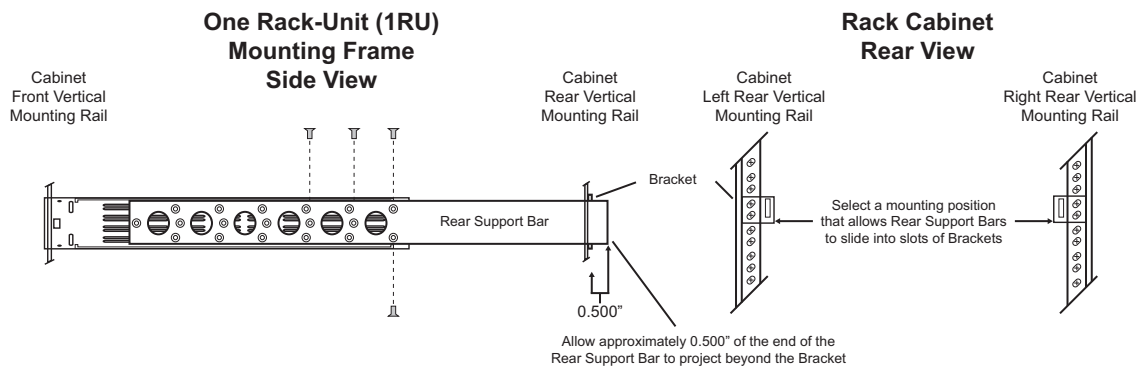

Figure 2.1 Installing the Support Brackets
In some cases, (mobile trucks, etc.) it may be desirable to also support the rear of the ACO-4400A. The rear support bars can be attached to the ACO-4400A in six possible positions. (Figure 2.1)
2. Using four screws per bracket (Ross P/N 2101-3005-RC), as shown in Figure 2.1, attach both bars.